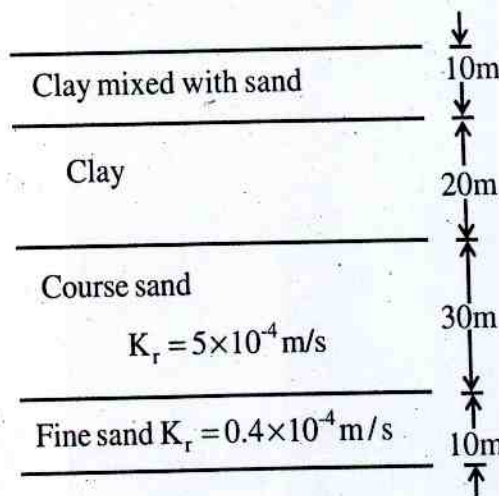

Fig.4(b)
- (b) For the strata shown in Fig 4 (b) design a tube well. The average level of the water table below the ground surface is 15 m in summer and 12 m in winter and the discharge required is 100 l.ps. The maximum depression head = 10.0m. Take the radius of influence as 400 m. [10]